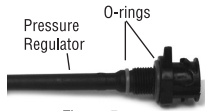

Figure 5
9. The pressure regulator can also be replaced at this point if necessary by unscrewing it from the pressure chamber. If replacing apply petroleum jelly to the pressure regulator o-rings before installing (fig. 5).